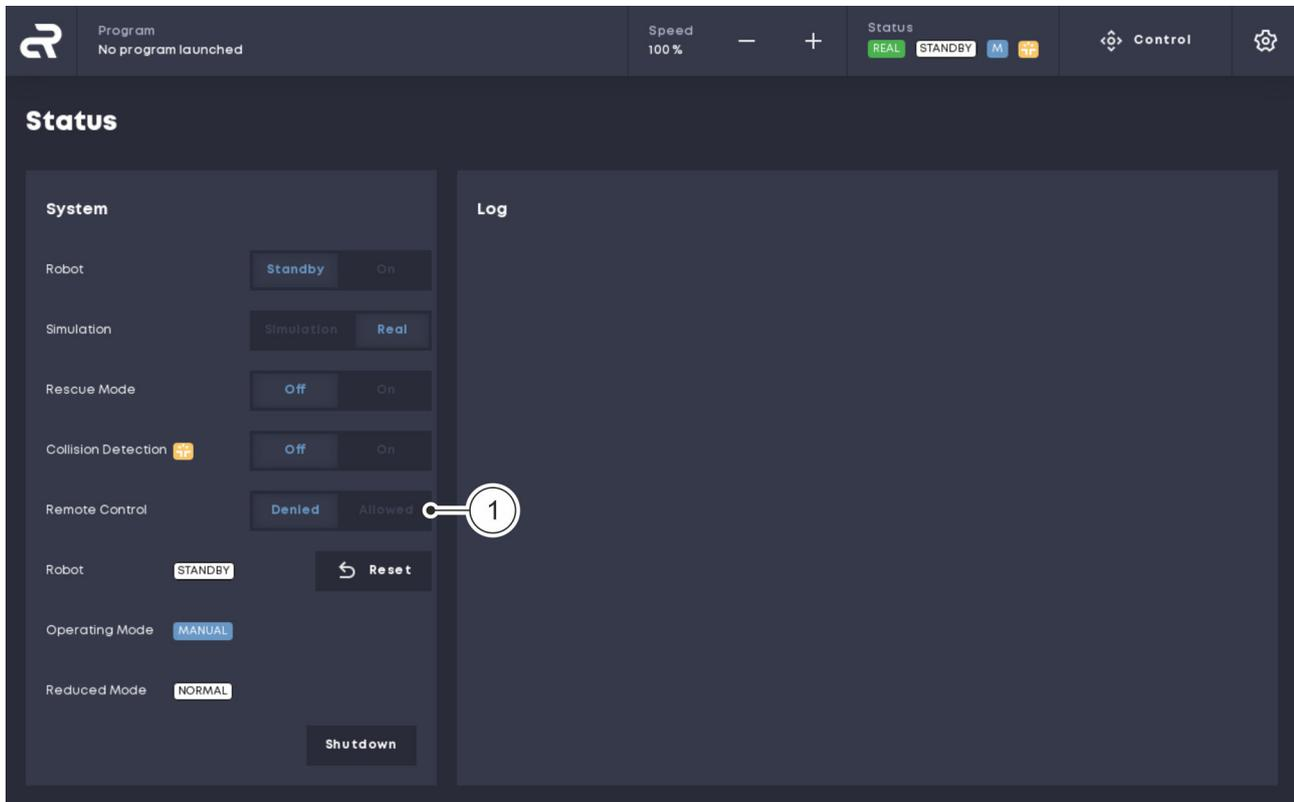

Fig. 45 Remote mode
01. In the 'Status' menu, click on the 'Allowed' button next to 'Remote Control' Fig. 45/①.